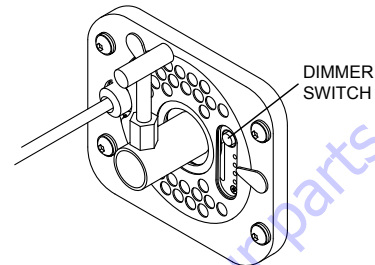
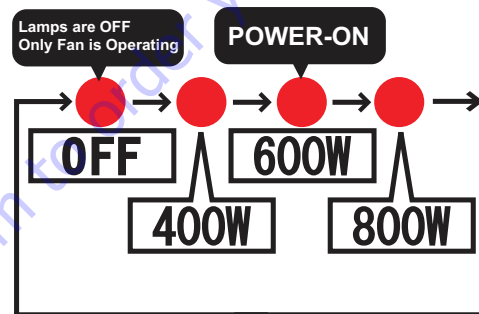

Figure 23. Dimmer Switch
Figure 24. Brightness LED Indicators
1. Press the dimmer switch to control the brightness of the lamp (Figure 23). The lamp can be turned off or set to 400W, 600W or 800W. The corresponding LED will light red when selected (Figure 24).
1. Press and hold the dimmer switch (Figure 23) for 2 seconds. The blue LED in the center of the switch will flash when in silent mode.